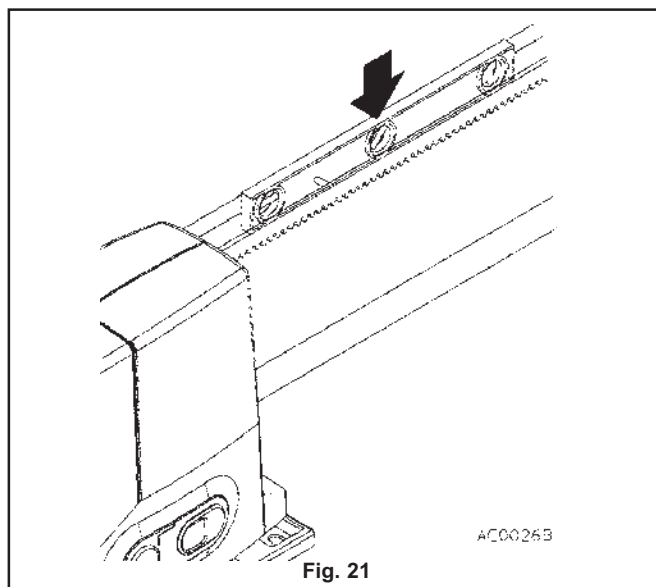

Fig. 21
- g) Check that the rack is level (fig. 21).
- b1) Check that the rack is absolutely level (fig. 21) and straight.